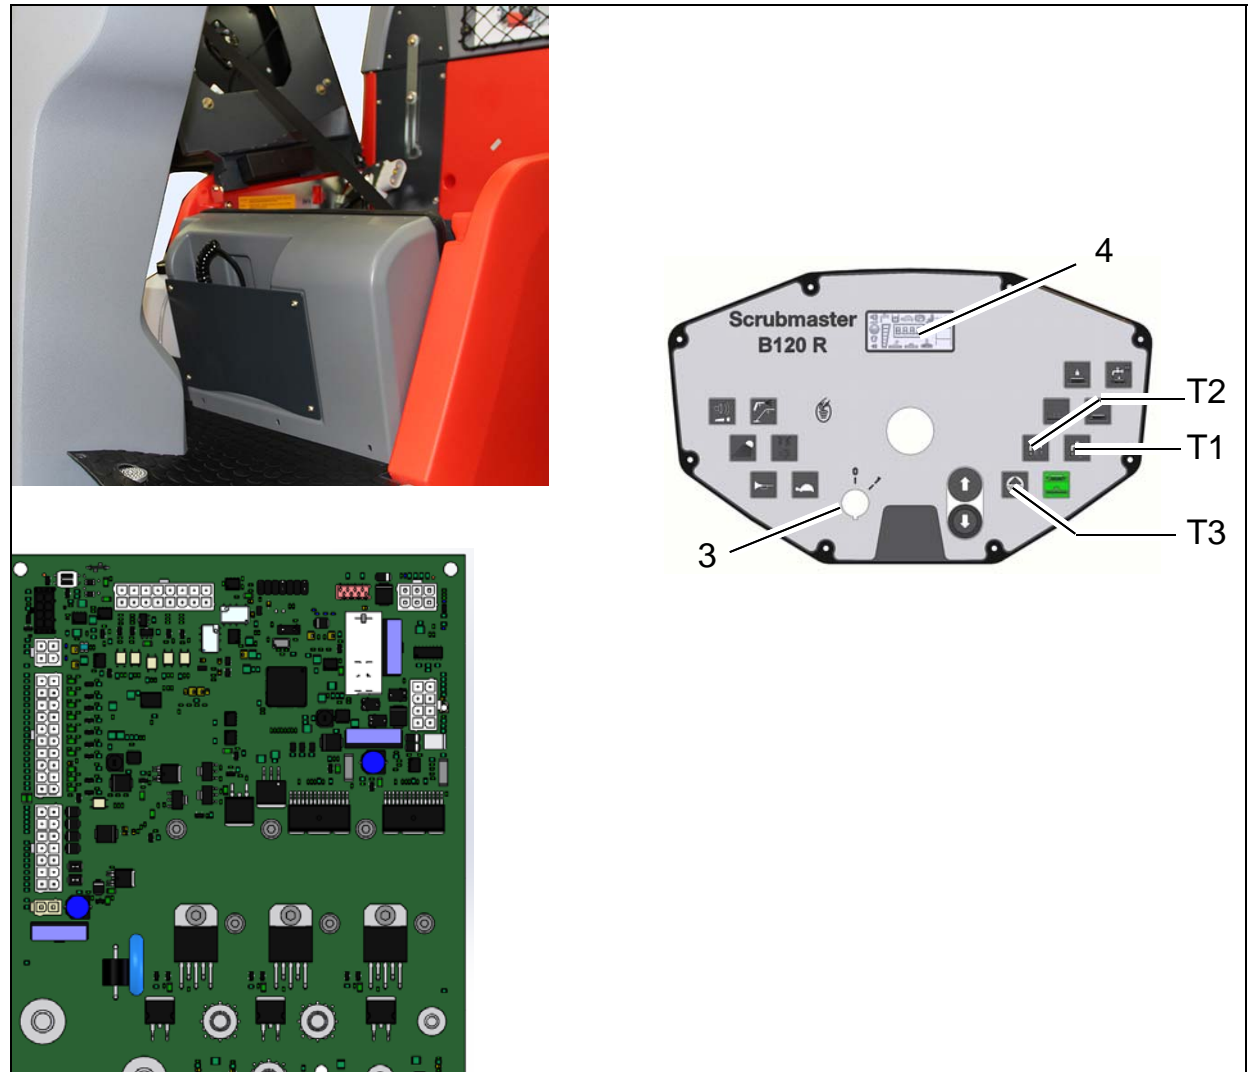

Fig. 3
Button 1 (Fig. 3/T1):
Button 2 (Fig. 3/T2):
Button 3 (Fig. 3/T3):
5. Connect diagnosis plug 97097737 to plug A1.X3 (Fig. 3/2) of the control electronics A1.
Press buttons 1 and 2 simultaneously, switch on the key switch (Fig. 3/3) and hold for 3 seconds. The right-hand dot flashes in the indicator (Fig. 3/4):